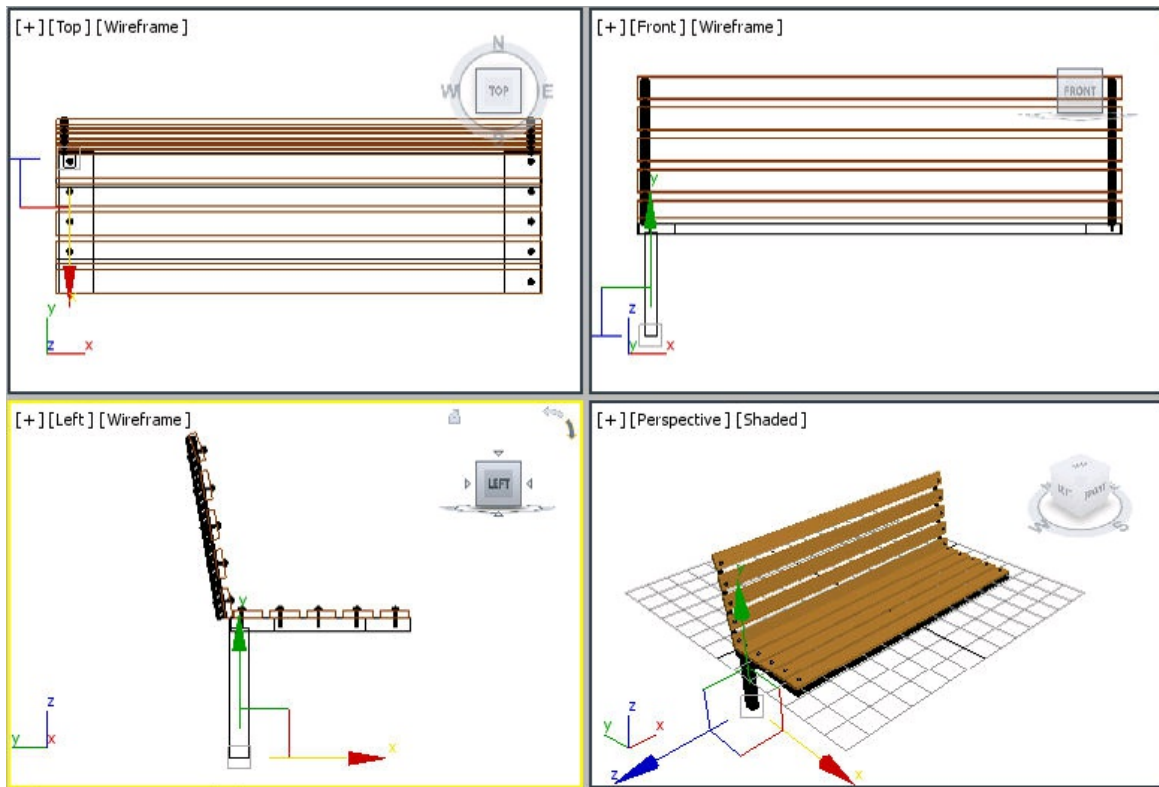

Figure 2-97 Alignment of *leg001* in viewports
5. Choose the **Select and Move** tool and align *leg001* with *leg support001* in the viewports, refer to Figure 2-97. You need to adjust the viewport to display all the objects properly using the **Zoom** and **Pan View** tools.